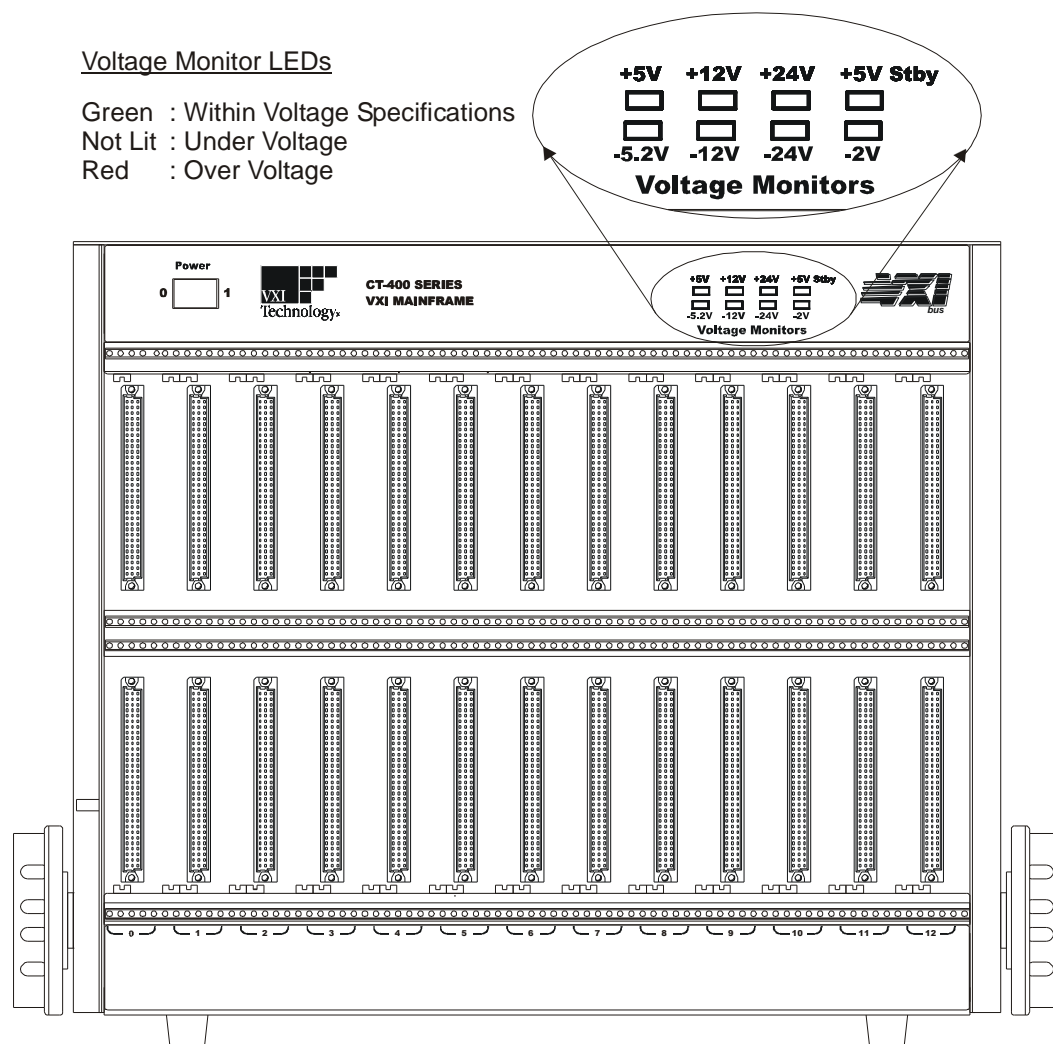

FIGURE 1-3: FRONT PANEL VOLTAGE INDICATORS
- Feature 2** Indicates whether specific backplane voltages are within specifications. See Figure 1-3 for details.